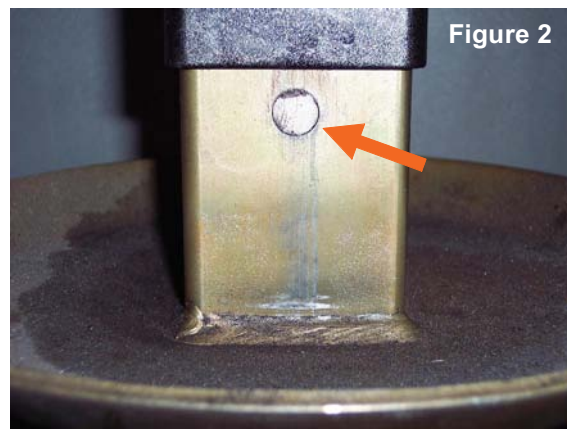

Figure 2
2. Magnet on the leveling inner leg (*see figure 2*).